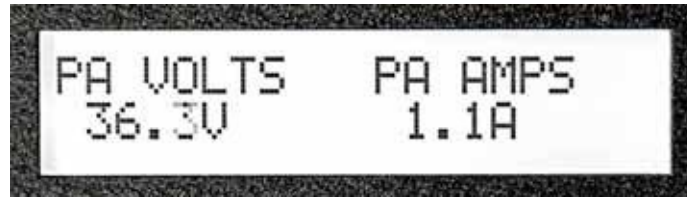

Figure 3-11. Press the FUNCTION Key to read VOLTS & AMPS
3. Pressing the FUNCTION key again will display the power output (volts multiplied by amps; see Figure 3-11).